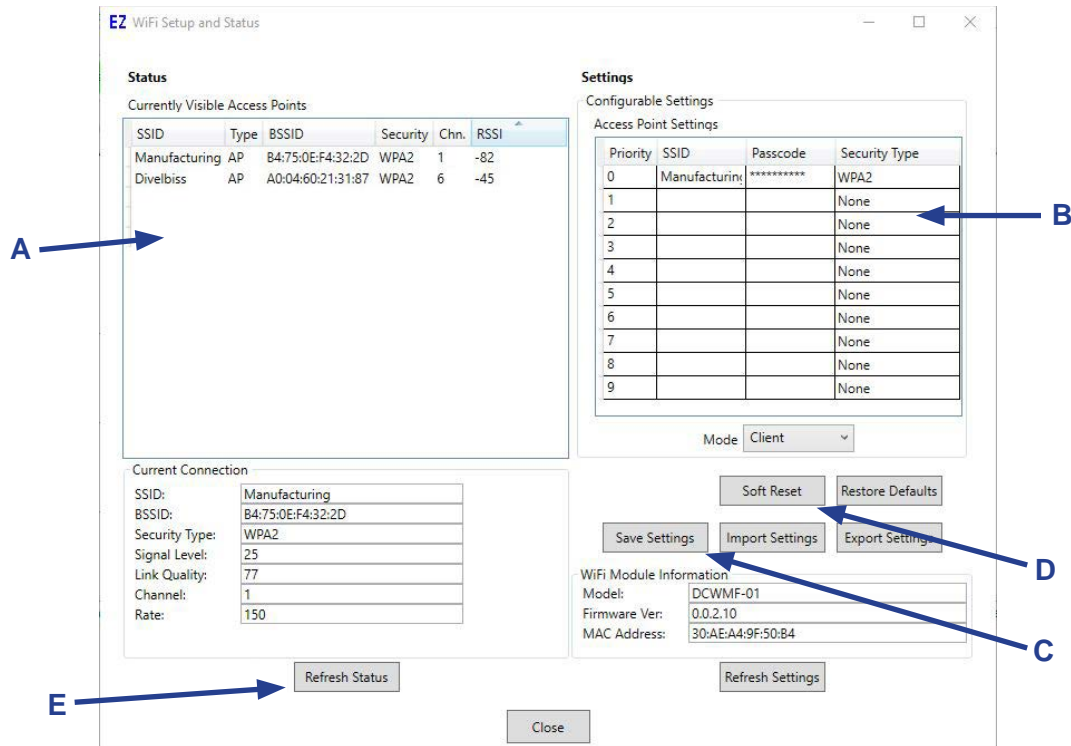

Figure 19-13
5. The **WiFi Setup and Status** window will open. An intermediate temporary dialog may be seen while the setup is accessed. Refer to Figure 19-13.
7. Referring to Figure 19-13, the *Currently Visible Access Points* (item A) pane shows all the networks currently in-range for the Wi-Fi to detect. **The network must be in-range to be configured.**
8. In the Access Points Settings, enter the **SSID** and **Passcode** in their respective places (item B). It will be necessary to double-click to enter the values. Refer to Figure 19-13.
Multiple Wi-Fi networks may be saved by adding them to list shown in Figure 19-13. Each setting is stored in the hardware target and is maintained during a power loss. The priority of Wi-Fi network to connect to is based on the priority number in the list.